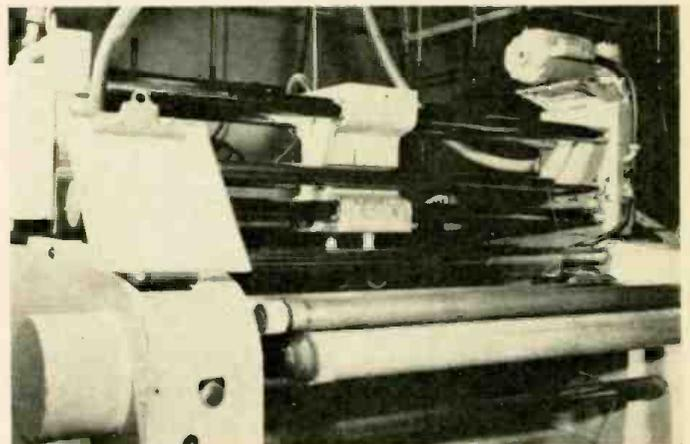

Fig. 4. Traversing thickness gage used in plastic production.
The use of thickness controls is not restricted to steel fabrication as evidenced by the photograph of Fig. 4 which shows an installation in the processing of Saran, a very thin plastic. Here the source and detector assembly travel back and forth over the width of the plastic sheet as the sheet passes between them.
Fig. 4. Substitution of an air-spring for mechanical-suspension stiffness in the acoustic-suspension system, shown in (B), in order to reduce speaker distortion.
eliminating suspension non-linearity, the acoustic suspension system1 employed a new approach to providing cone restoring force. As shown in Fig. 4, the volume of air enclosed by the cabinet walls is used as an air spring, substituting for the mechanical suspensions as a source of elastic restoring force. The mechanical suspensions cannot be dispensed with because they must still perform their centering function, but they can be made so limp that the problem of suspension non-linearity is eliminated as a practical consideration.